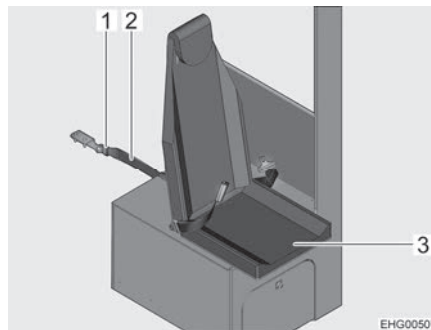

Fig. 21 Securing the attachable seat
- Plug retaining belt (Fig. 21,2) into the seatbelt lock (Fig. 21,1).
- Fold down the seat (Fig. 21,3).